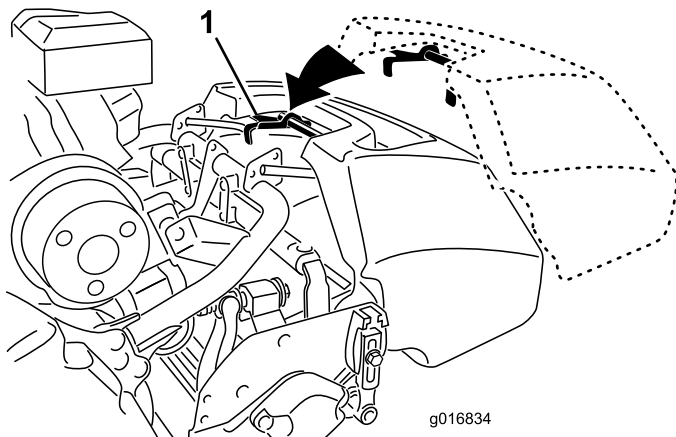

Figure 9
2. Guide the basket lip between the cutting unit side plates and over the front roller (Figure 9).
3. Install the basket hooks over the frame loop (Figure 9).
1. Grasp the basket by the handle (Figure 9).